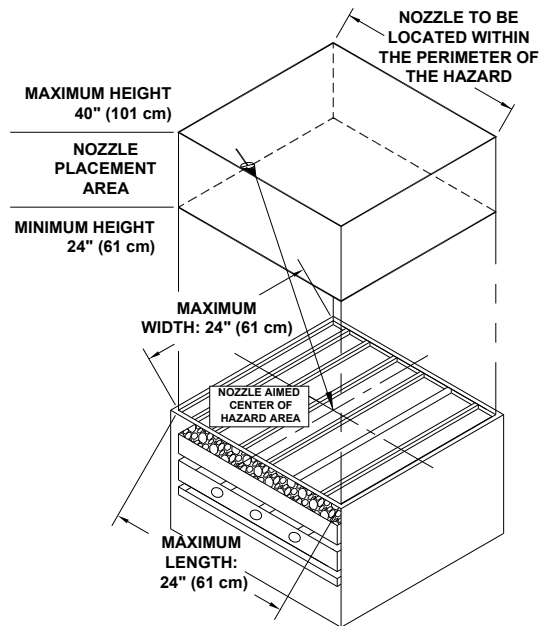

Figure 3-21.
The **Model N-2HP** nozzle is a two (2) flow point nozzle that can protect a lava rock charbroiler with a cooking area of 24" (61 cm) wide by 24" (61 cm) deep. The nozzle must be located 24" (61 cm) to 40" (102 cm) above the cooking surface and positioned anywhere over the cooking area. The nozzle must be aimed at the center of the cooking area. See **Figure 3-21**.